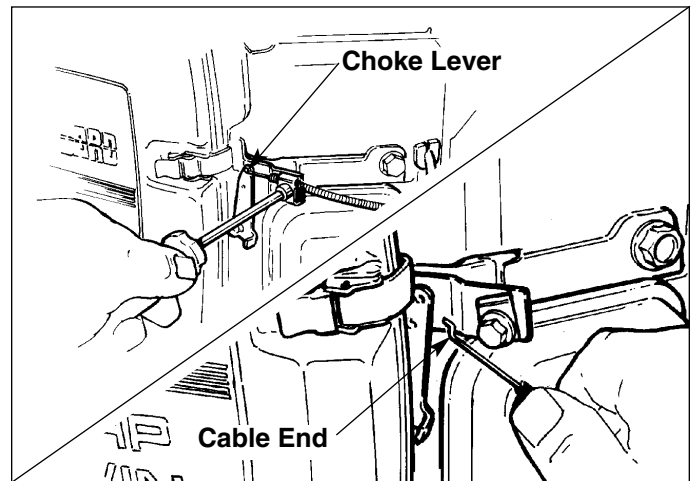

Figure B-31. Disconnect Choke Cable At Engine
1. Loosen the choke cable clamp on the engine using a phillips head screwdriver, and after noting the engagement of the cable end with the choke lever, remove the cable end from the choke lever (Figure B-31).